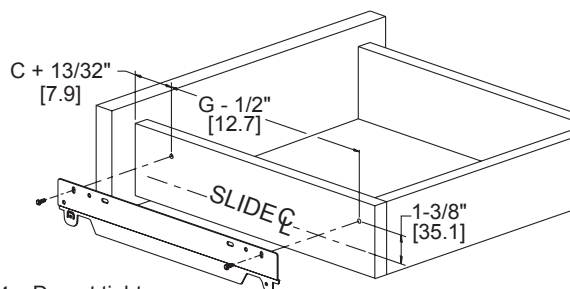

Figure 3
2. Extend the slides fully forward. Mount drawer slide by lowering the rear rail tabs through the rear slide pocket. Lower drawer until front rail tabs snap into front pocket. See Figure 3.